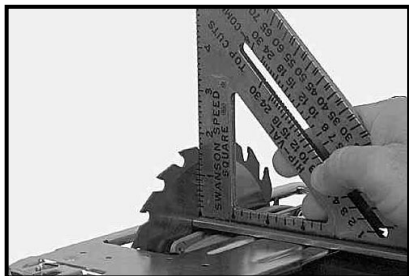

Fig. 7
3. Turn saw upside down, retract telescoping guard and check squareness of blade as shown in Fig. 7.